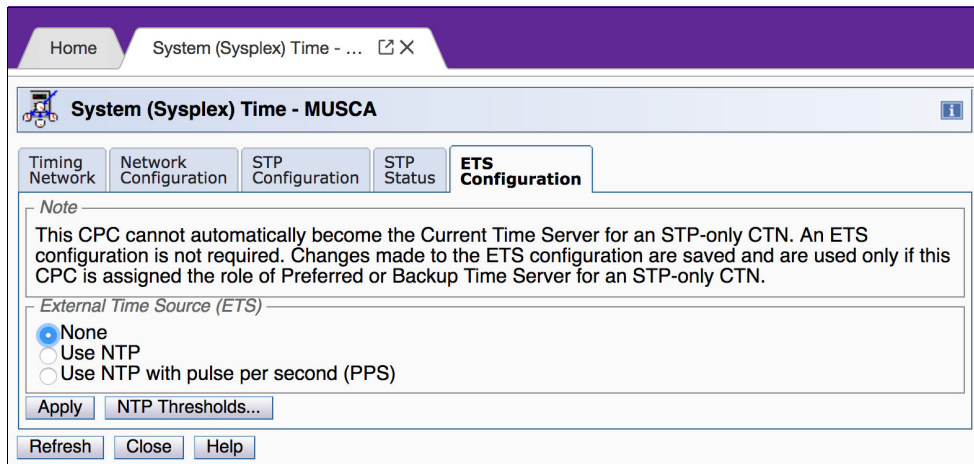

Figure 16-7 External Time Source tab (not configured)
2. The ETS information must be configured. We click the **ETS Configuration** tab, as shown in Figure 16-7.